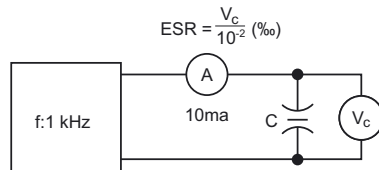

Figure 3. Equivalent Series Resistance (ESR)
ESR in ohms can be measured using the test circuit in Figure 3:
- V_c = Volt meter (DC).
- Calculate capacitance in farads using the equation in Figure 3.